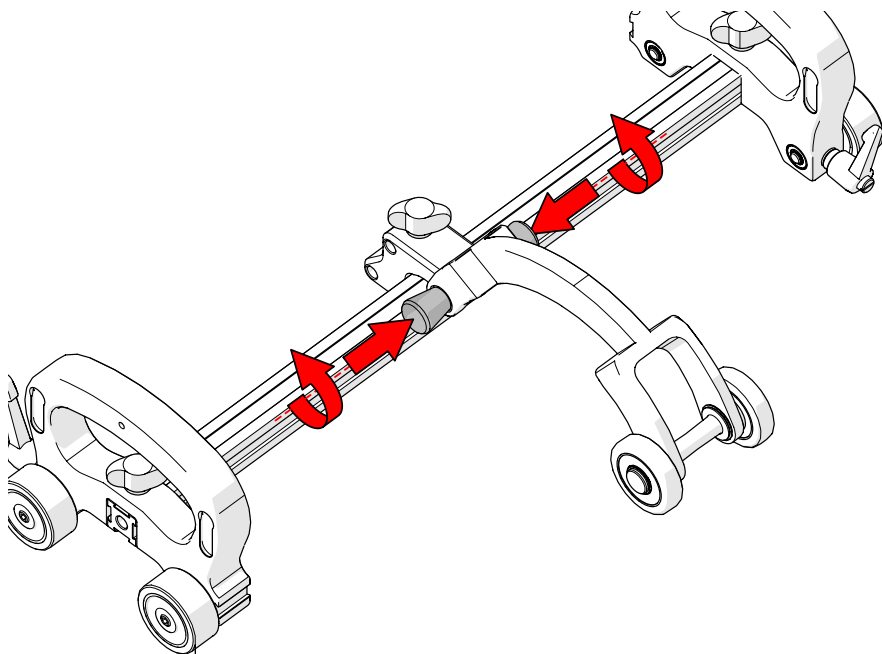

Fig. 54 - Twist pins to unlatch and connect
3. Twist the pins until they unlatch and extend into the connection holes of the double chain mount (Fig. 54).